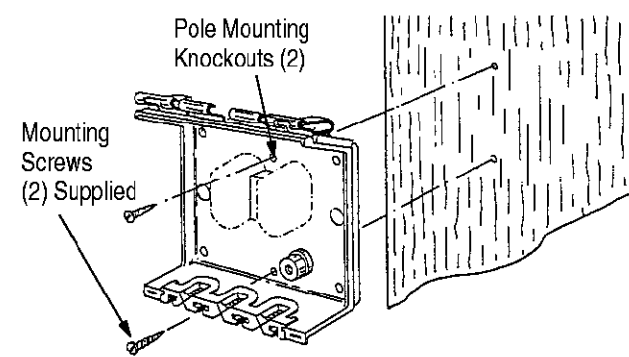

Figure 4
3. Place terminal "face down" on a solid flat surface. Using a small punch or screwdriver, remove pole mounting knockouts from outside terminal. See Figure 4.
4. Place two screws through the mounting holes in the base of the terminal. Align the terminal with the pole and secure with mounting screws. As shown in Figure 4.